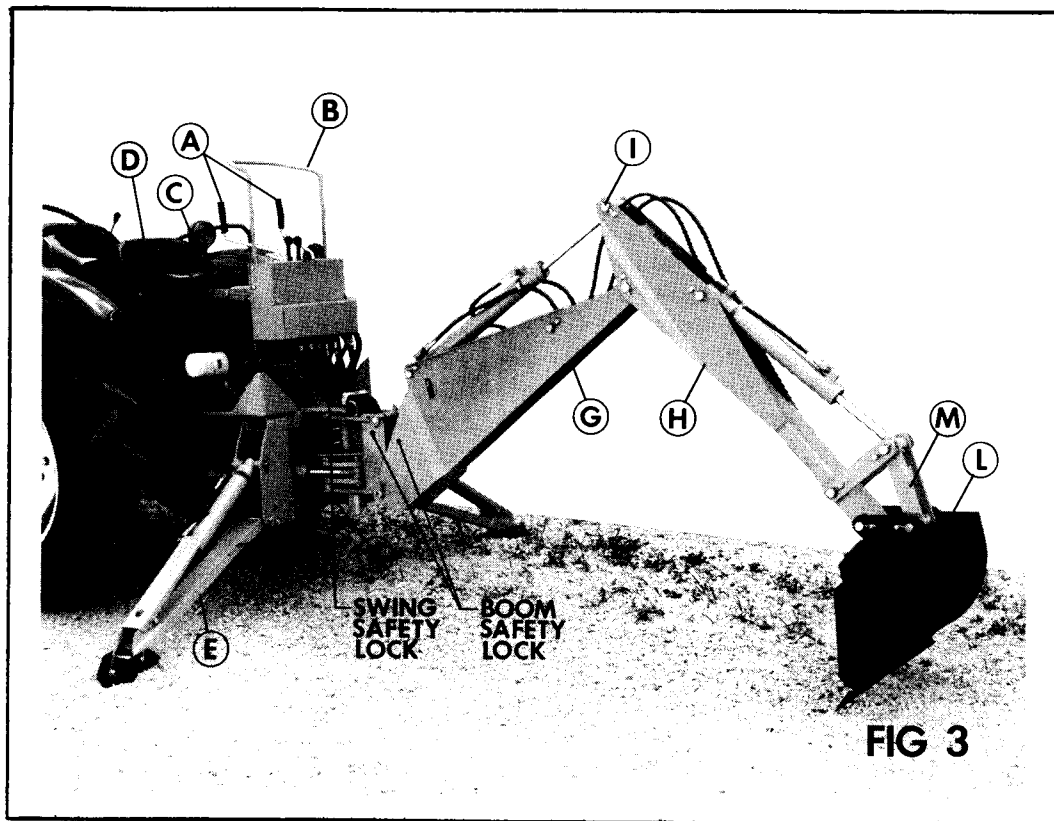

FIG 3
DISENGAGE safety locks as shown in Fig 3, before attempting to operate the backhoe.
ALWAYS engage safety locks before transporting backhoe. See Fig 3, page 7.
ALWAYS engage safety locks before servicing backhoe. See Fig 3.
3. Attach RH stabilizer (E) to mainframe using pin and hardware assembled to mainframe. See Fig 3.
4. Attach RH stabilizer cylinder (F) to stabilizer and mainframe using pins and hardware provided. Be sure cylinder and hoses are oriented in the same manner as the LH stabilizer. See Fig 3.
5. Support boom (G) and dipperstick (H) with hoist.
dipperstick at point (I) using pin and hardware provided. See Fig 1 and Fig 3. Reposition hoist by hooking onto mainframe, near main pivot pin and swing safety lock.
13. Attach bucket (L) to dipperstick using a 1" diameter x 7-3/8 inch pin, two 5/16 NF x 7/8 bolts, two pin retainers, locknuts, and washers as needed to take up gap under pin retainers. See Fig 3.
14. Attach bucket link (M) to bucket using same hardware as listed for #13. See Fig 3.
16. Attach LH bumper (K) to mainframe using two 5/16 NF x 1-1/4 bolts, washers, and lockwashers. See Fig 3.
1. **DISENGAGE** safety locks as shown in Fig 3, before attempting to operate the backhoe. Store lockpins in holes provided in top of valve shroud.
1. ALWAYS engage safety locks as shown in Fig 3, when transporting backhoe.